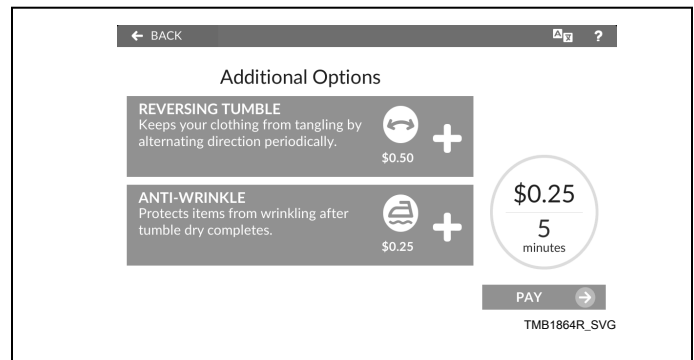

Figure 24
3. If programmed, select desired options from the Additional Options Menu. The vend price and cycle time changes accordingly. When finished adding options, touch PAY (refer to Figure 24).